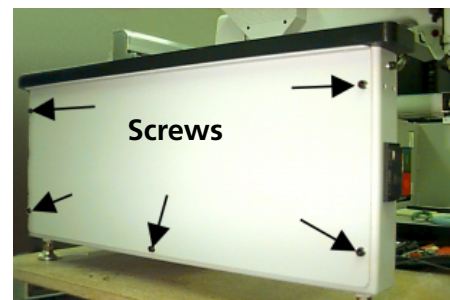

Figure 1-11
2. Remove the side covers; there are 5 screws holding each side cover in place (see Figure 1-11). Use the #2 Phillips head wrench included in the operator kit to remove the screws.